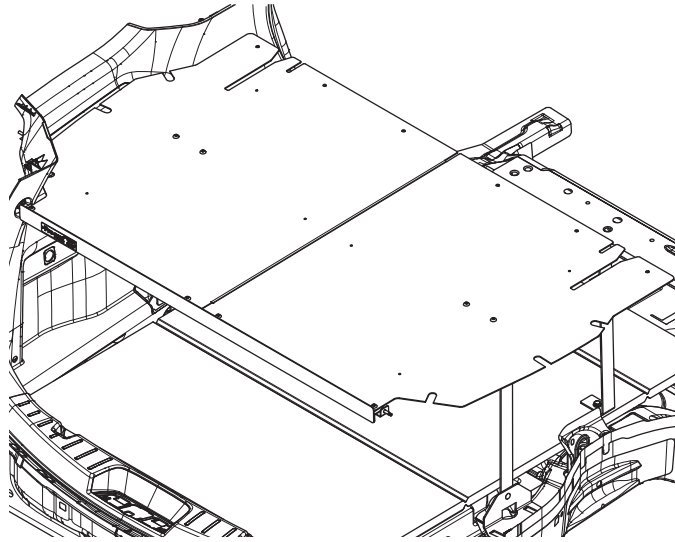

Figure 4
- A. Place the 3CSC4716-01 cargo shelf into place over the brackets and cross members on the driver side. Adjust the shelf so that the pre-drilled holes line up with the holes in the bracket and cross members that were aligned in the previous step. Then using 3X03 bolts secure the shelf in place threading the bolts into weldnuts on the brackets using the aligned hole locations. There are a few holes that require a 3X16 nut, instead of a weldnut. Repeat on the passenger side using the 3CSC4716-02 cargo shelf. See Figure 4.